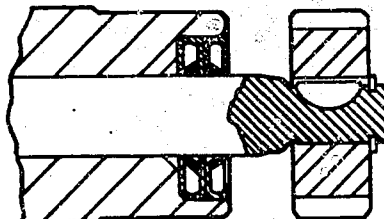

FIGURE 1
- F. Position second SE 1060 with lip edge upward and repeat pressing operation. (Seals will be back to back-refer to Figure 1).